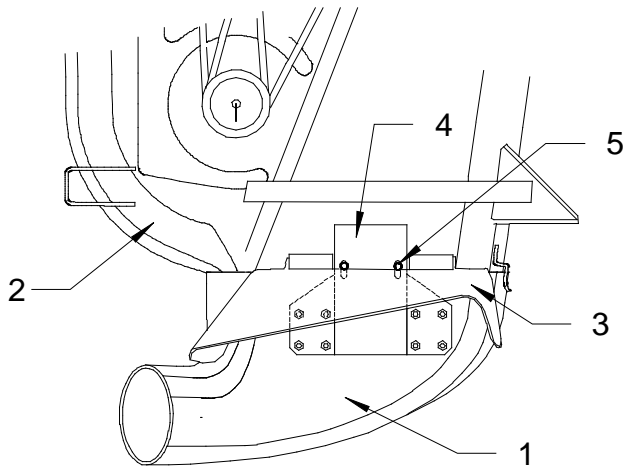

Figure 8
1. Install the boot on mower (if it is not installed) by lifting the mower grass deflector (do not remove it) and introducing the channel boot holder between the deflector and the mower deck (fig. 8).
2. Release the deflector. It should lock the boot in place behind the bolt head (fig. 8).
3. If the bolts are not positioned correctly to lock to boot in place, loosen the bolts, slide them to the correct position so that the guard locks the boot in place. Tighten the bolts (fig. 8).
4. The boot must be touching the mower snugly (fig. 8).
2. If the boot or suction tube plug up, stop the mower, back the tractor 6 to 10 feet, stop the engine, set the parking brake, remove the ignition key, remove spark plug wire(s), remove the boot from mower by lifting the grass deflector which locks the boot in place (fig. 8). Remove the boot and tube, unplug and reinstall in place. Spread the cut grass in front of the tractor.